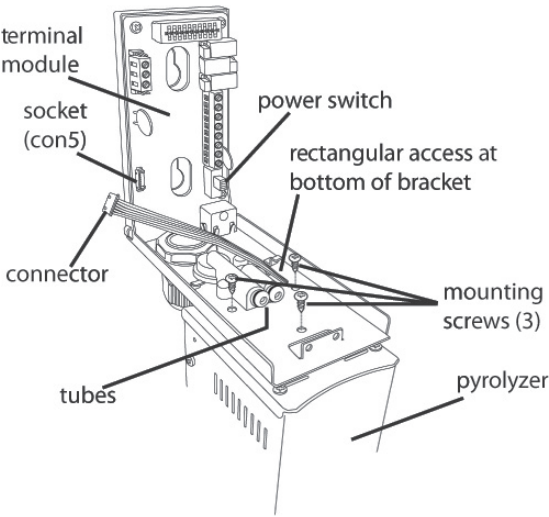

Figure 4: Attaching the pyrolyzer
10. Connect the pyrolyzer to the detector with the three provided mounting screws (see Figure 4).